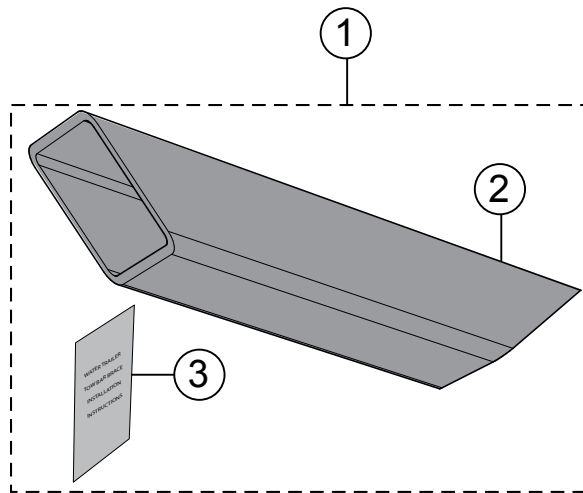

Figure 1. Brace Kit, Tow Bar
Verify that all parts are accounted for. See Figure 1 and Table 1.
1. Check that the hitch mount brace is accounted for before attempting this installation procedure. Reference Table 1 and Figure 1.